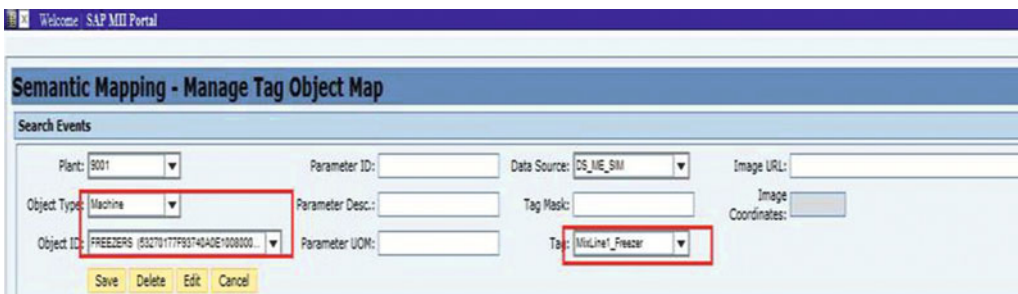

Figure 7-19. Tag versus OEE node ID mapping
2. Get the node ID of the machine or line whose downtime is being reported. You should create a custom mapping between the node ID of each SAP OEE object with its respective tag or alias if defined in SAP PCo. Refer to Figure 7-19.